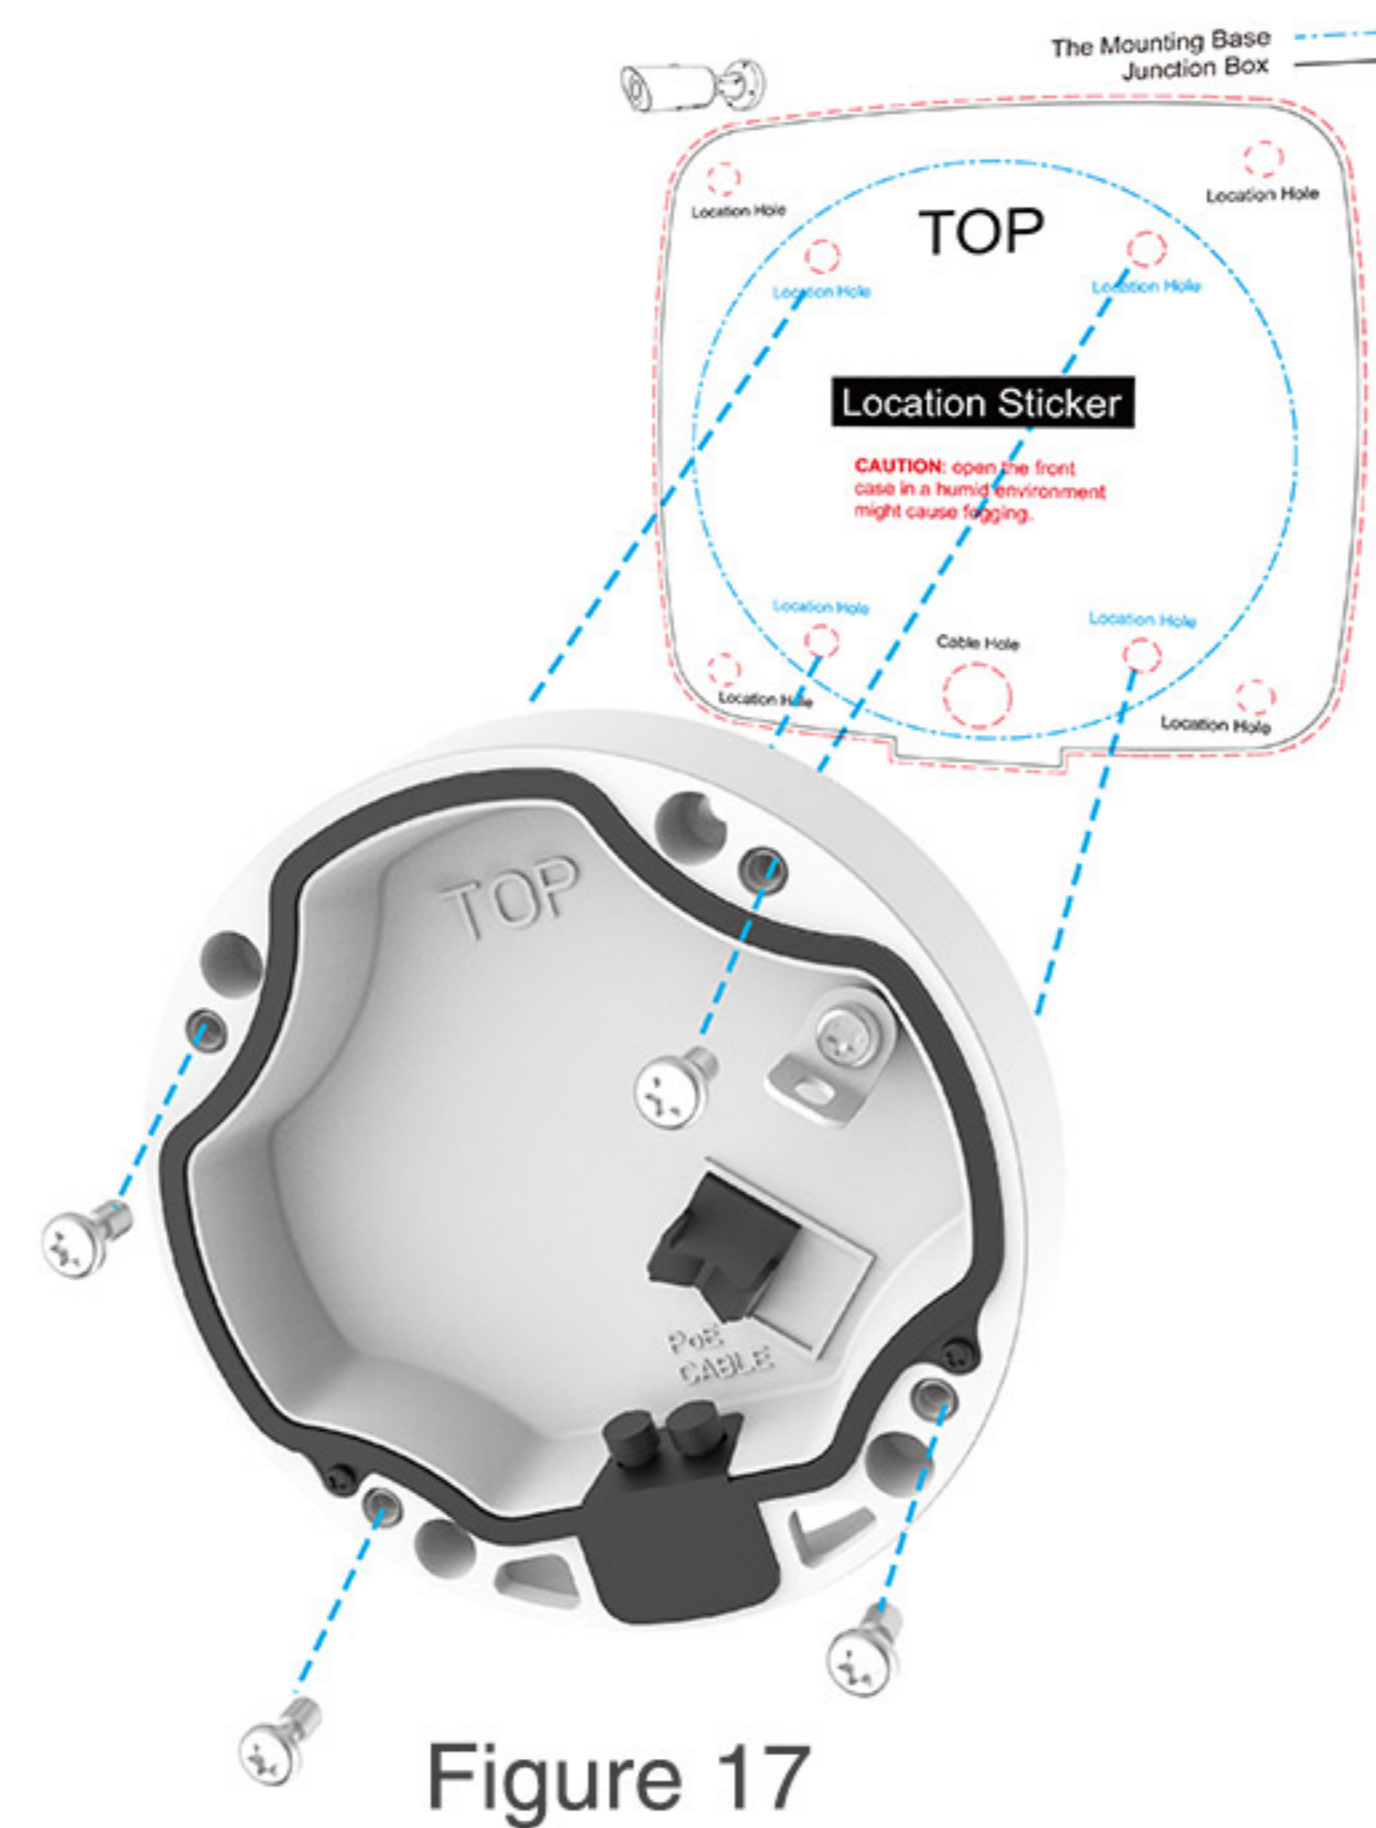

Figure 17
Step 1: Fix a sticker on the position where the camera is intended to be installed (Figure 17), and take out the Black Rubber Plug on the Base;